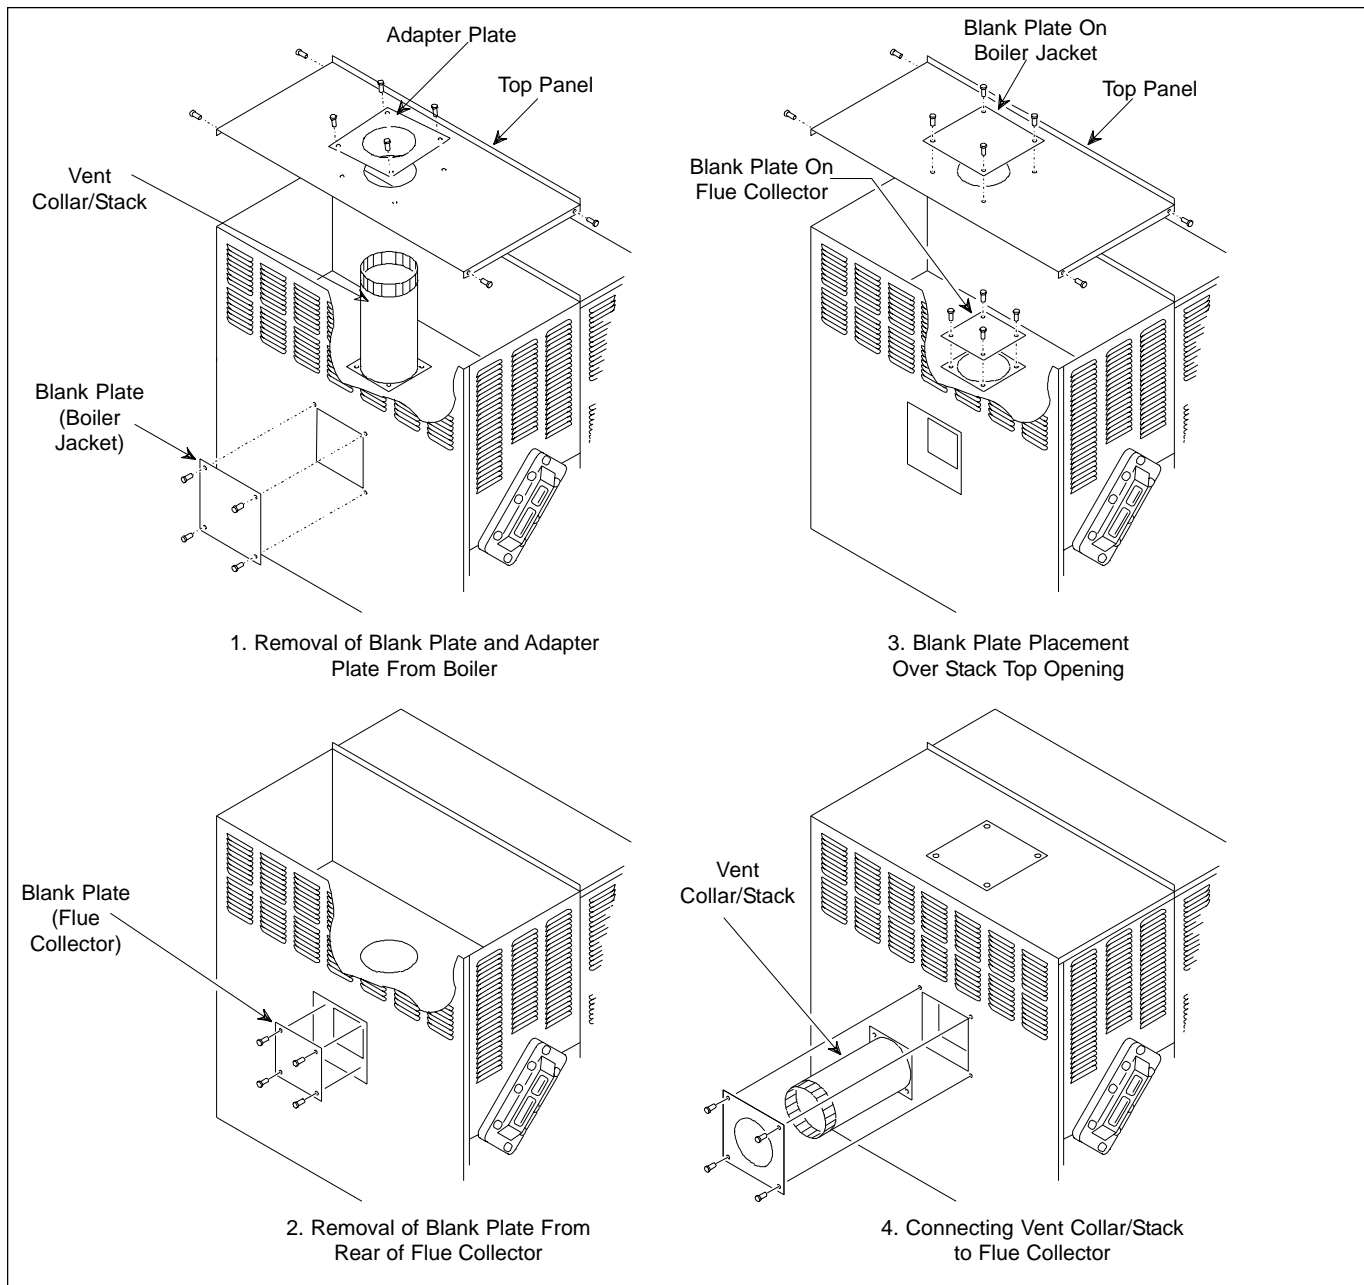

Figure 9. Top-To-Rear Vent Collar.
The Mighty Max HH boiler is shipped with the vent collar on top of the heater. Follow this procedure to convert it for rear connection (see Figure 9).
9. Slip the adapter plate over the vent collar/stack and install it onto the rear boiler jacket (see Figure 9).